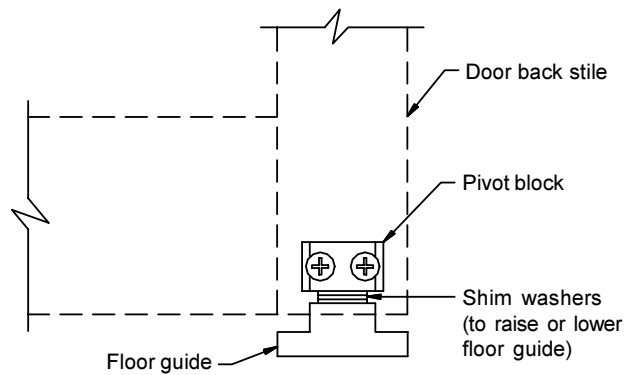

Figure 22. Installation of Door (SX) Bottom Pivot Assembly
5. Remove the sliding door bottom pivot assembly (which includes the floor guide) from the blister pack. Install the bottom pivot assembly into the bottom of the vertical door stile through the two prepped and countersunk holes with the 1/4-20 x 3/8" long flat head screws provided (**Figure 22**).